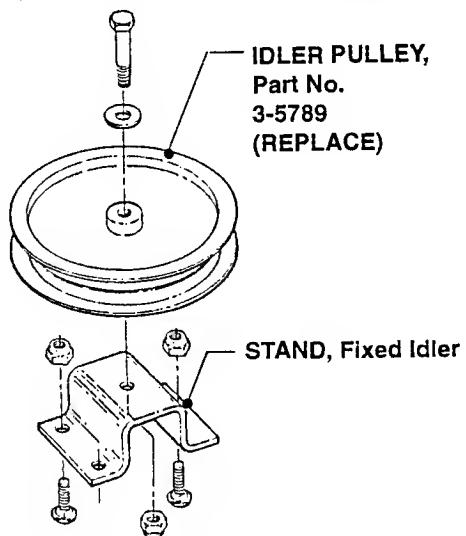

FIGURE 8.19
7. Check the front Idler Pulley for "free-turning" also. Replace parts as required. See Figure 8.19.